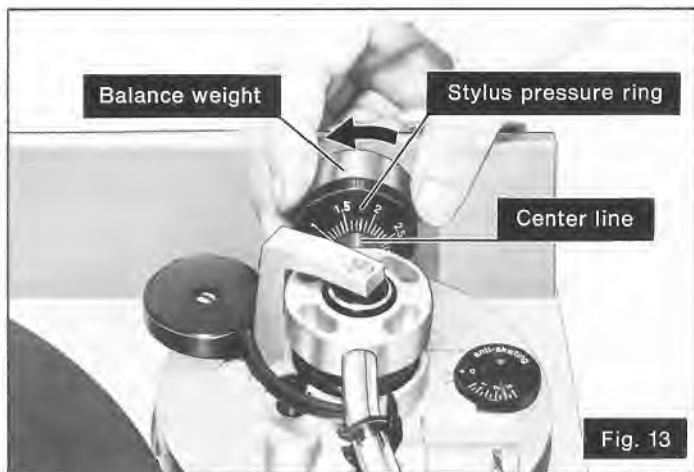

Fig. 13
- ⑤ After adjusting the horizontal "0" balance, turn the balance weight clockwise in the direction of the arrow and align to the correct stylus pressure. (Follow the cartridge manufacturer's recommendation.) (See Fig. 13).